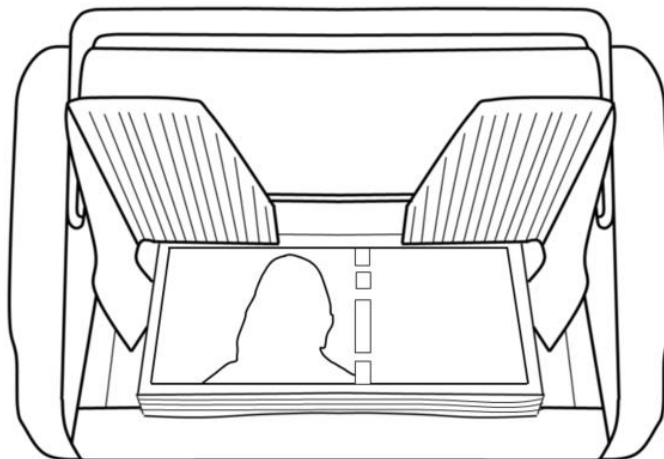

Figure 7
- 3) During the banknote counting process, the note guider should be limited according to the maximum size of currently counted notes to ensure that the banknotes can be accurately identified by the relevant sensors. Taking US dollars as an example, please arrange the banknotes first, and then limit the note guider according to the largest size banknote. Finally, put the banknotes into the hopper and start counting, as shown in the Figure 7: